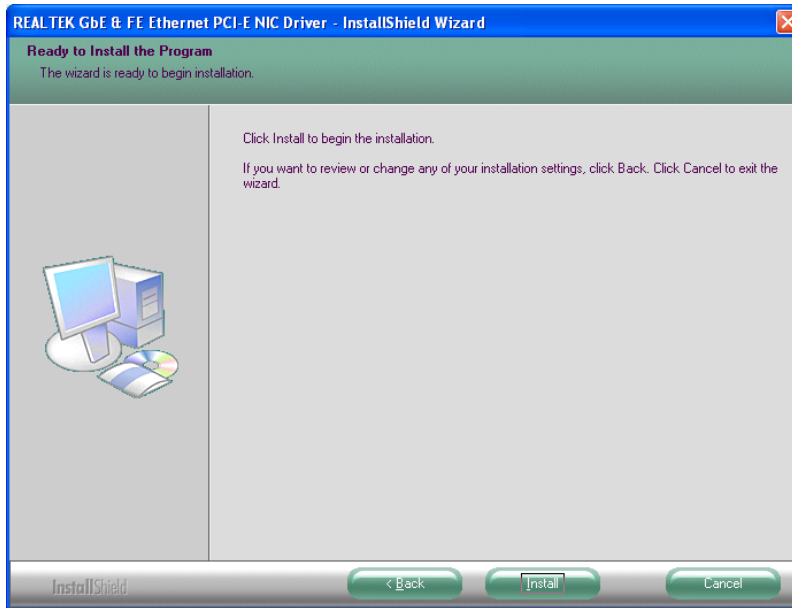

Figure 6-16: LAN Driver Welcome Screen
Step 5: The **Ready to Install** screen in **Figure 6-16** appears.